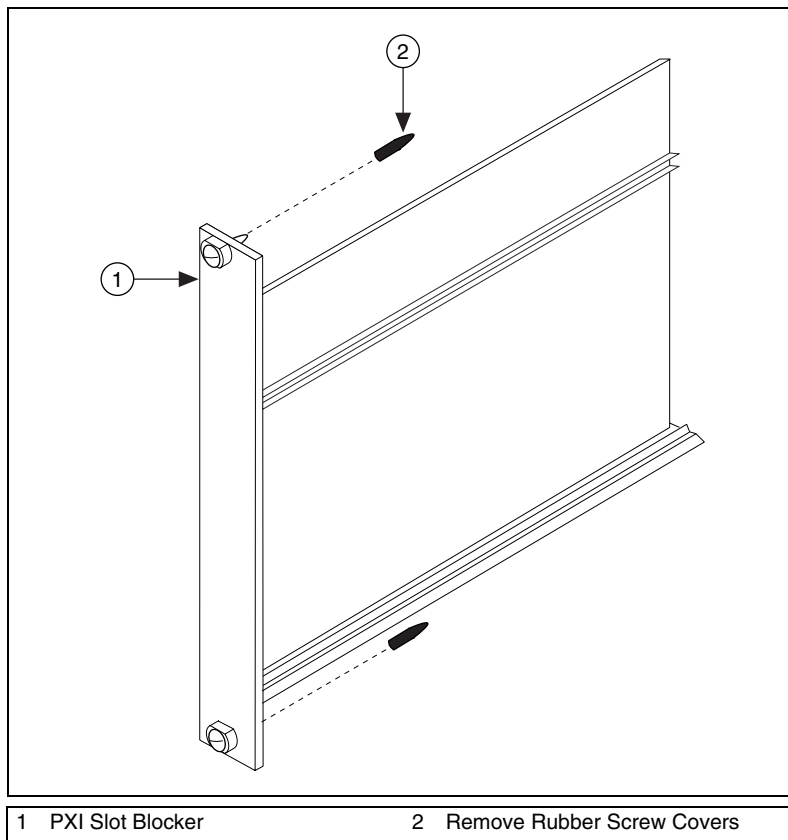

Figure 1-7. Optional Slot Blockers Enhance Cooling
- (Optional) NI recommends installing slot blockers to maximize cooling air flow. The PXI Chassis Slot Blocker Kit, part number 778678-01, is shown in Figure 1-7.